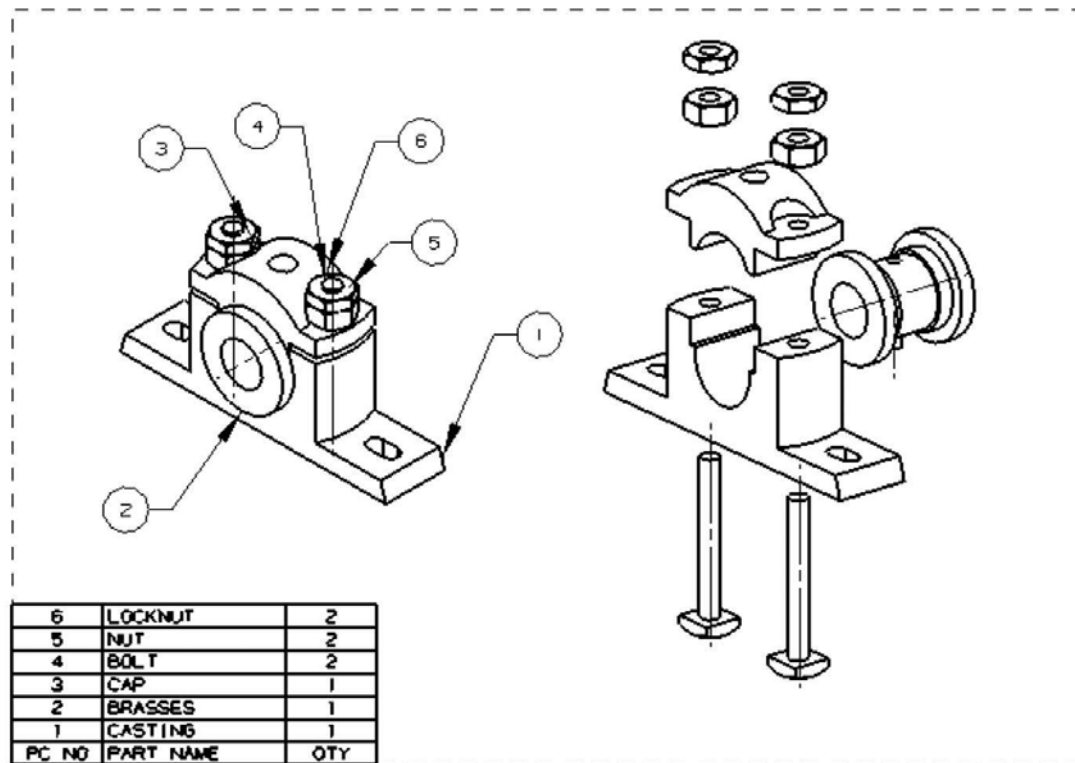

Figure 12-68 The drawing views of the assembly along with the parts list and auto balloons
- c. Create dimensions for all views, refer to Figure 12-68.
Create the exploded view and the isometric view of the assembly created in Tutorial 2 of Chapter 8, refer to Figure 12-68. Also, generate the parts list and auto balloons shown in the same figure. After completing the drawing sheet, print and plot it. **(Expected time: 30 min)**